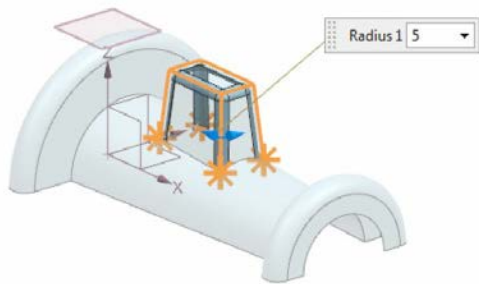

Figure 10-107 The preview of the fillets displayed after selecting the edges
- Fillet the stitched surface, refer to Figures 10-107.
2. Select the edges of the surface, refer to Figure 10-107. Enter **5** as the fillet radius value in the **Radius 1** edit box.